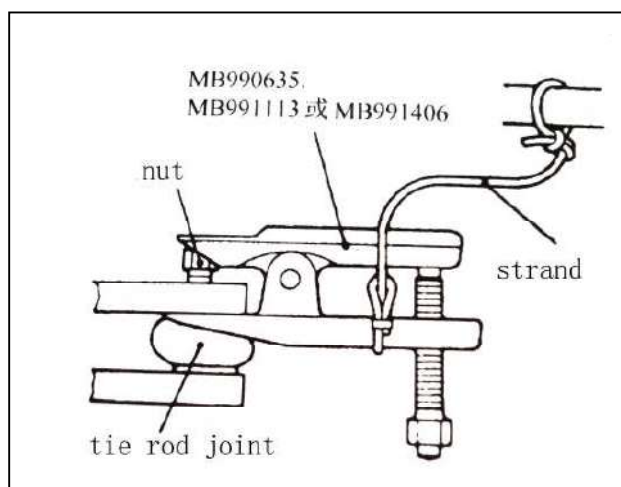
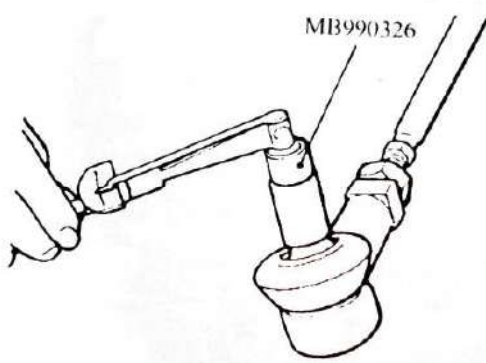

Fig 17-2
Fig 17-3
(2) When the angle is not within the standard value, the toe-in is probably incorrect. Adjust the toe-in and recheck steering angle.
3. TIE ROD END BALL JOINT STARTING TORQUE CHECK (Fig 17-2 Fig 17-3)